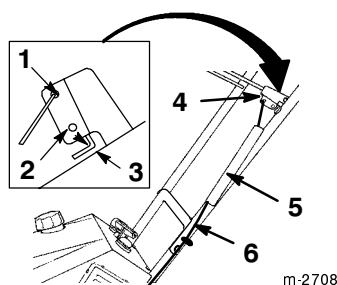

Figure 10
1. Route the control cable through the cable guide on the left side of the snowthrower (Fig. 10).
4. Slide the spring cover over the spring and the cable adjuster, and push the spring end through the hole at the end of the spring cover (Fig. 10).
6. Insert the loose end of the control cable into the top hole of the control bar as illustrated in Figure 10.
9. Make sure that a 1/16 to 1/8 inch (1.6 to 3.2 mm) gap exists between the control bar and the handle (Refer to the inset in Fig. 10). To adjust this gap, refer to *Adjusting the Control Bar* on page 17.